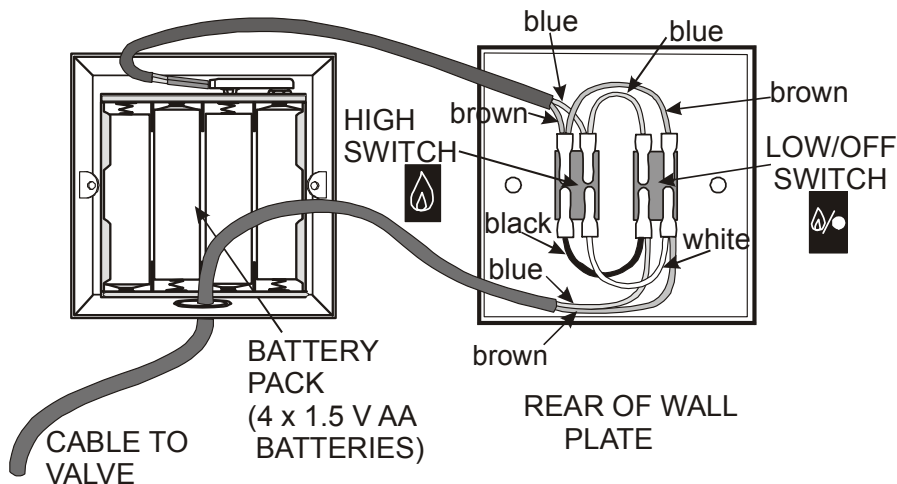

Figure 48
3. Make the connections on the wall switches as shown in **Figure 48**.